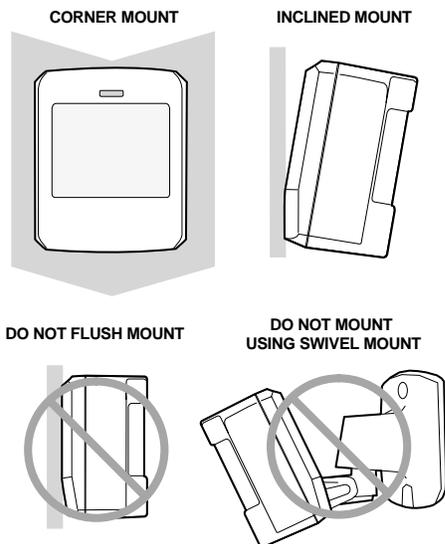
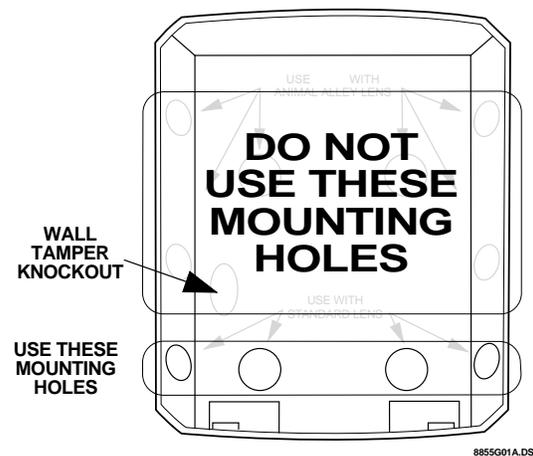

Figure 4. Wall Mount Options: Use the inclined position for surface or corner mounting.
Figure 5. PIR Mounting Plate Knockouts
- The sensor must be incline-mounted on a wall surface or incline mounted in a corner at a mounting height of 7.5 feet (2.3 m). See Figure 4.
This sensor must be incline-mounted on a wall surface or incline mounted in a corner at a mounting height of 7.5 feet (2.5 m) (see Figure 4).
2. Punch out two of the bottom four mounting holes. See Figure 4 for wall mount options. See Figure 5 to determine which knockouts to use when mounting the motion sensor. Use the lower-side holes for corner mounting, or the lower-middle holes for surface mounting.
3. If you desire wall-tamper functionality, remove the wall-tamper knockout (see Figure 5).